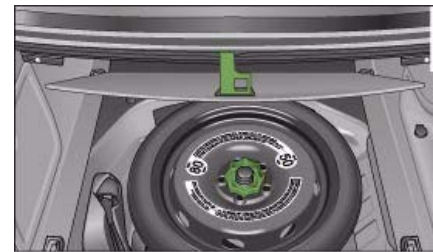

Fig. 238 Spare wheel
- Lift the floor panel by the plastic handle ⇒ fig. 238.
- Turn the centre plastic knob ⇒ fig. 238 anti-clockwise.